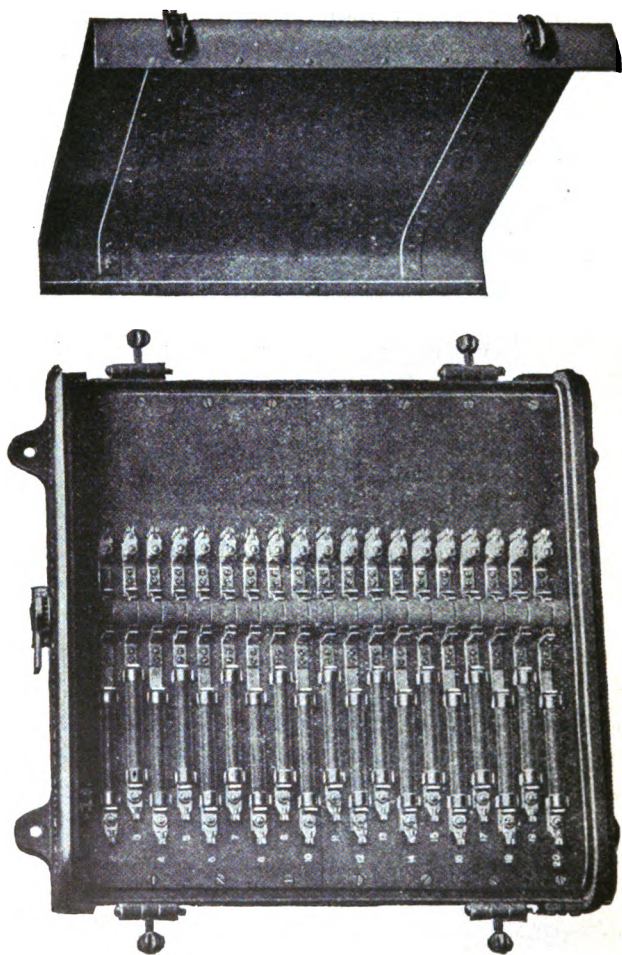

Fig. 517. Train Cable Connection Box.
67. TRAIN CABLE CONNECTION BOXES are used for making connections from master controller and coupler sockets to the train cable. One of these connection boxes (Fig. 517) is combined with the twenty-point cut-out switch. This is mounted on the back of the master controller on the "A" end of the cab. This is the No. 2 connection box. The plain connection box (Fig. 518) is
69. THE CONTROL CUT-OUT SWITCH (Fig. 517) has already been referred to under the subject of CONNECTION BOXES. The connection studs of this box also serve the purpose of the No. 2 connection box. This cut-out switch serves the purpose of disconnecting the control circuits of contactors and reversers on a locomotive from the train line. The cut-out switch has twenty sets of contacts which are connected or disconnected accordingly as the handle is full around to the left or to the right.
70. CONTROL FUSES (Fig. 517) are mounted on the same insulation back as the cut-out switch and are contained in the same box. The fuses numbered from the top protect the following circuits: